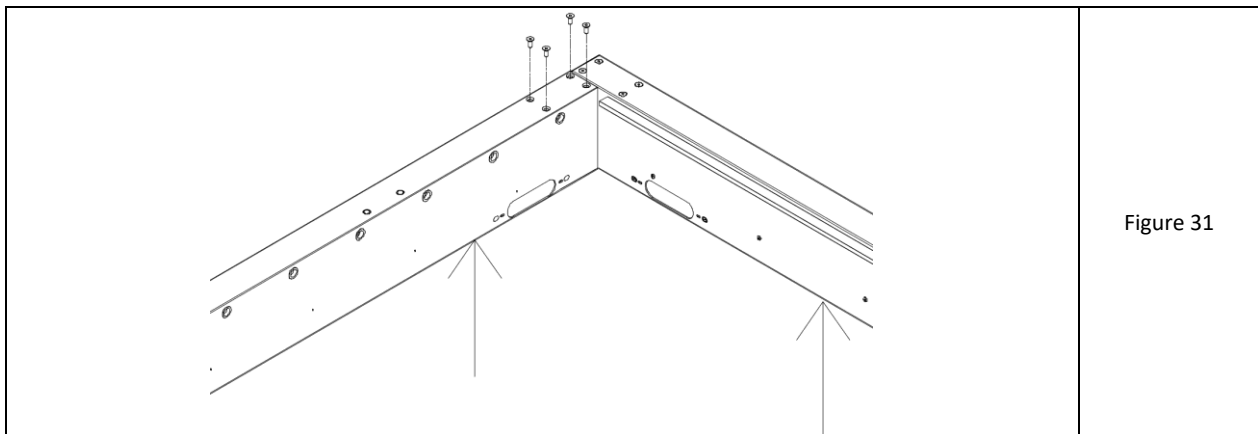

Figure 31
10. Support the free end of the crossbeam and, inserted into the lengthwise beam, screw from above using 4 conical screws with M8x20 Allen socket (fig. 31).